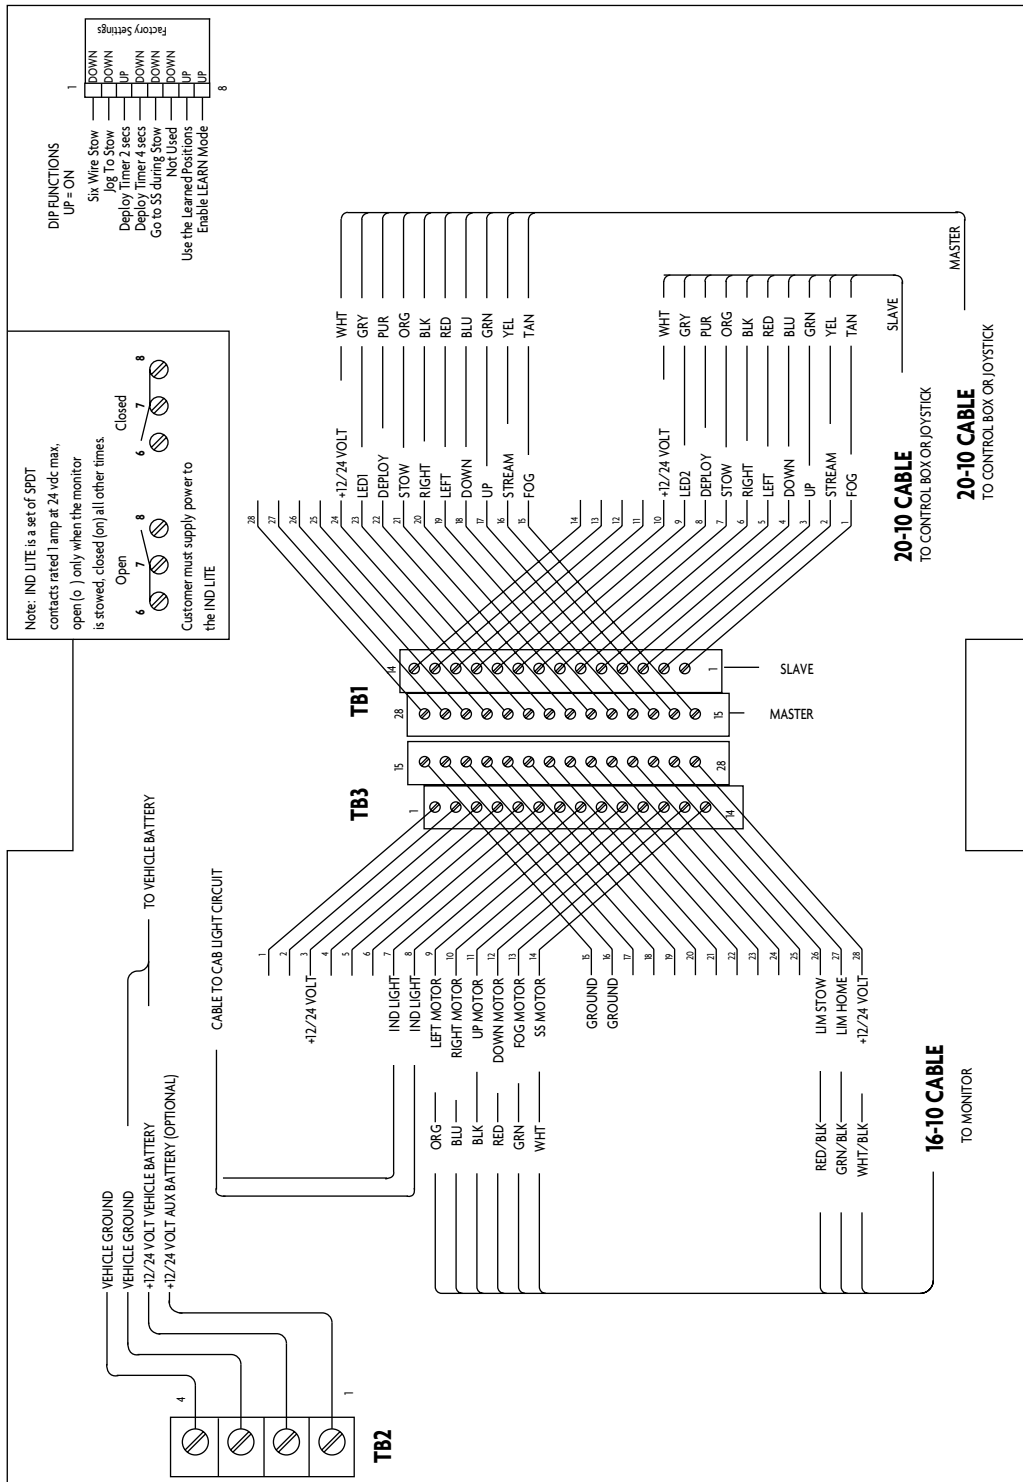

Figure 3
STEP 6 Remove the 6 logic box cover screws and set the logic box cover aside. Thread the 7 wires through the upper or lower control hole in the logic box (see component layout, Figure 3). Thread the cable grip washer and cable grip nut with the threads facing the box on the cable. Pull enough cable through the cable grip to ensure a good fit. Tighten the cable grip nut and attach the individual wires to the proper terminals (see wiring schematic Figure 2). Reattach the logic box cover and secure with the 6 screws.
STEP 7 Remove the cable grip nut for the wiring harness cable from the logic box, **DO NOT REMOVE THE CABLE GRIP**. Thread the cable grip nut on the wiring harness (#16-6) cable with the threads facing out. Thread the cable through the correct logic box cable grip (see component layout, Figure 3) so the cable grip nut will grab the outer cover of the cable. Tighten the cable grip nut and attach the individual wires to the proper terminals (see wiring schematic Figure 2). Reattach the logic box cover and secure with the 6 screws.